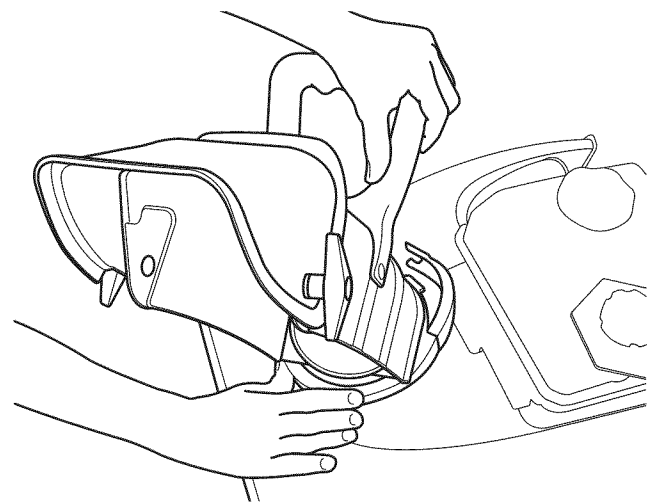

Figure 5-1
- Using the locking collar, secure the discharge chute to the base (see Fig. 5-1, 5-2).